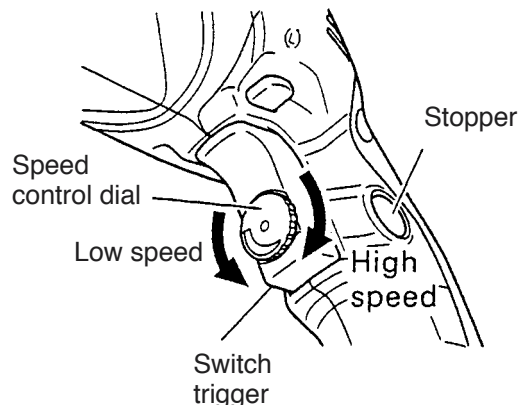

Fig. 3
(3) Switch operation
- The desired rotation speed can be preselected with the speed control dial. Turn the speed control dial clockwise for higher speed and counterclockwise for lower speed. (Fig. 3)